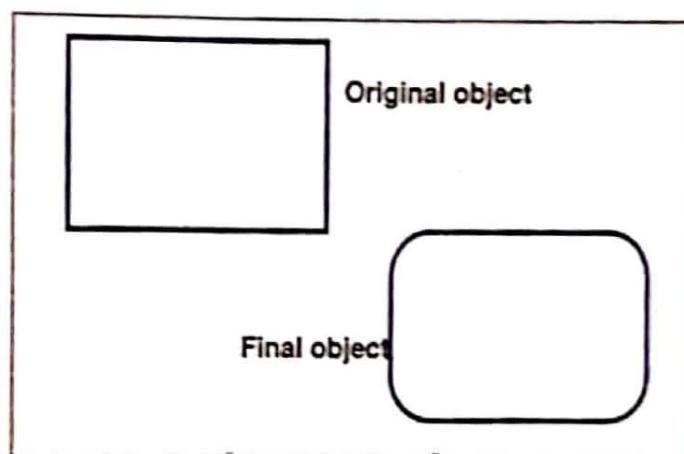

Fig. 19.34 Use of fillet command
- (iii) Type given value, press enter. See Fig. 19.34.